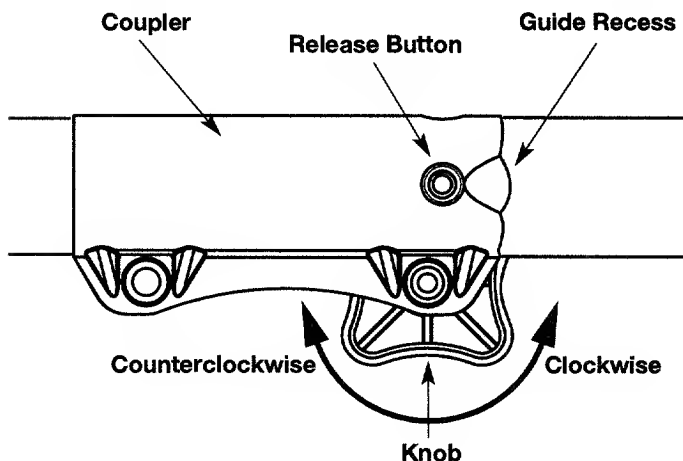

Fig. 1
1. Turn the knob counterclockwise to loosen (Fig. 1).
2. Press and hold the release button (Fig. 1).
1. Turn knob counterclockwise to loosen (Fig. 1).
NOTE: Aligning the release button with the guide recess will help installation (Fig. 1).